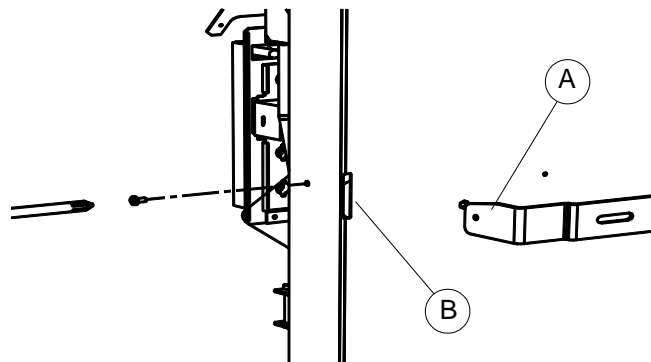

Figure 10 – Attachment detail
12. Locate slots B on the ends A of the support bracket and push the heater towards the wall so that it seats against the support bracket (see Figure 10).
13. Fix the heater to the support bracket with the two lateral screws as shown in Figure 10.